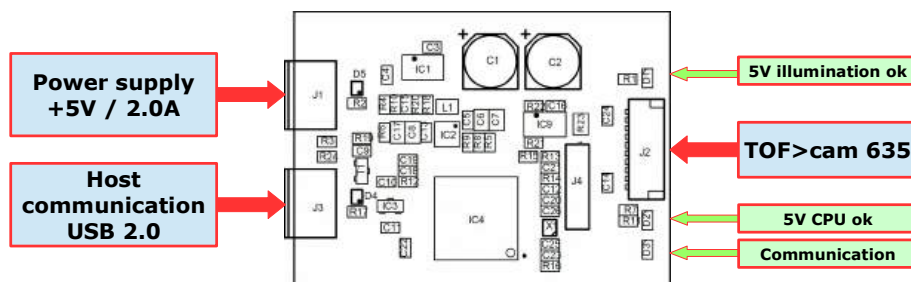

Figure 10: Cable connections (blue) and status LEDs (green)
1. Connect the TOFcam-635 to plug J2 of the USB adapter (TOFcam-635). Refer to Figure 10.
4. Check if all 3 LEDs are on. Refer to Figure 10: